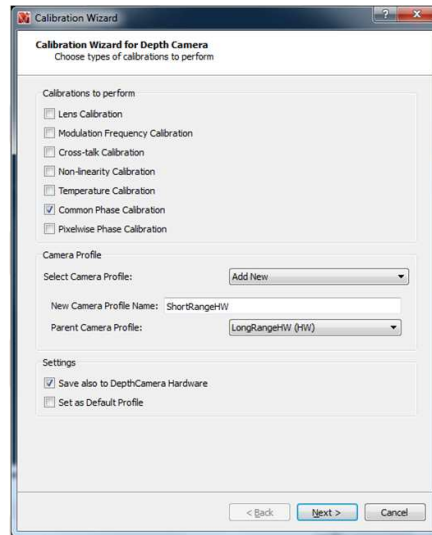

Figure 38. ShortRangeHW Profile Settings
With the current operating profile set at **Short Range (Settings → Camera Profiles → Short Range)**, bring up the Calibration Wizard (**Settings → Edit Profiles**), configure the checkboxes as in Figure 38. The profile to save to is “ShortRangeHW”. This profile inherits from the **LongRangeHW (HW)** profile, and has only the **Common Phase Calibration** included, because **ShortRangeHW** and **ShortRangeHW (HW)** will inherit the results of other calibration types from the **LongRangeHW (HW)** profile. Click **Next** and proceed with the Common Phase Calibration described in Section 4.6. When this step is completed, two more profiles, **ShortRangeHW** and **ShortRangeHW (HW)** will be created.